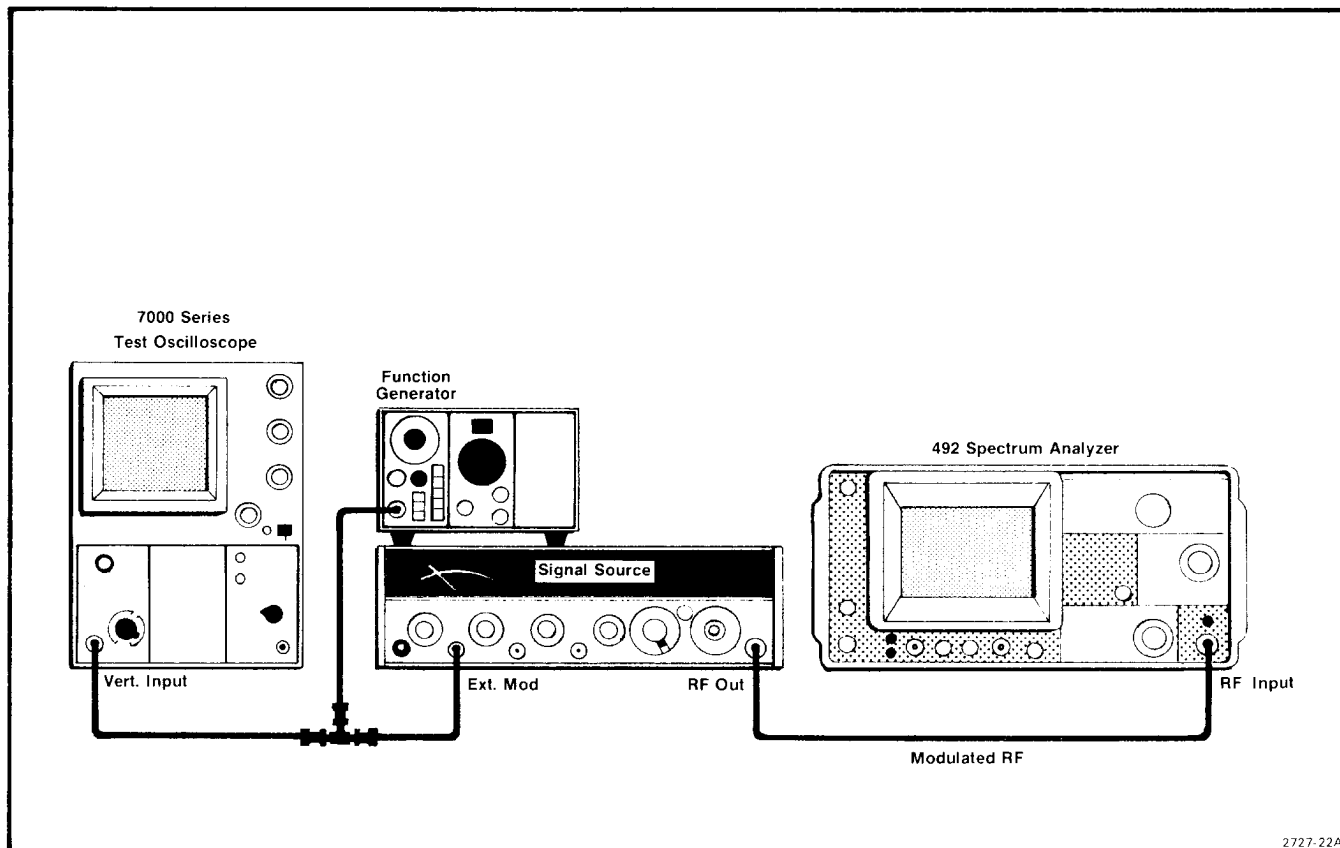

Fig. 3-18. Test equipment setup for checking triggering requirements.
a. Apply the output of a signal generator, modulated by a sine-wave generator, to the RF INPUT of the 492/492P. Monitor the output of the sine-wave generator with a test oscilloscope (see Fig. 3-18).